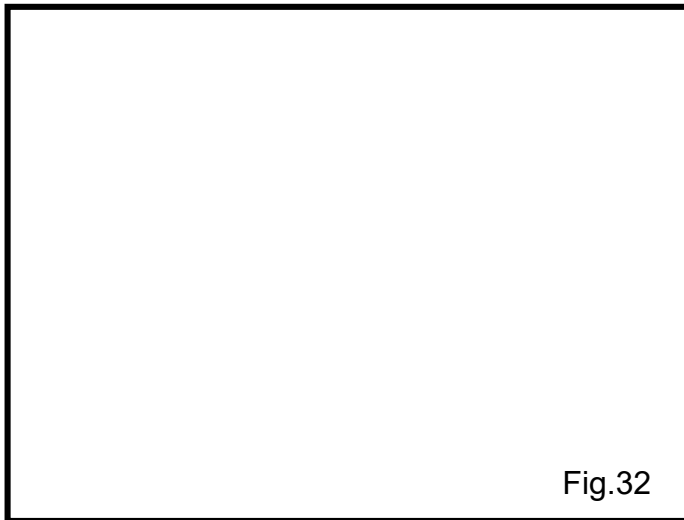

Fig.32
鬆開螺絲④調整位置，視刀的邊緣和刀齒去輕微的調整使導布器上的 A 點跟 4 支針的中間成一直線。(Fig.32,33)
Align the point A of the lap former① with the center of four needles. Depending on lapped edges of the fabrics or fabric feeding, loosen the screws④ and adjust the position. (Fig.32,33)